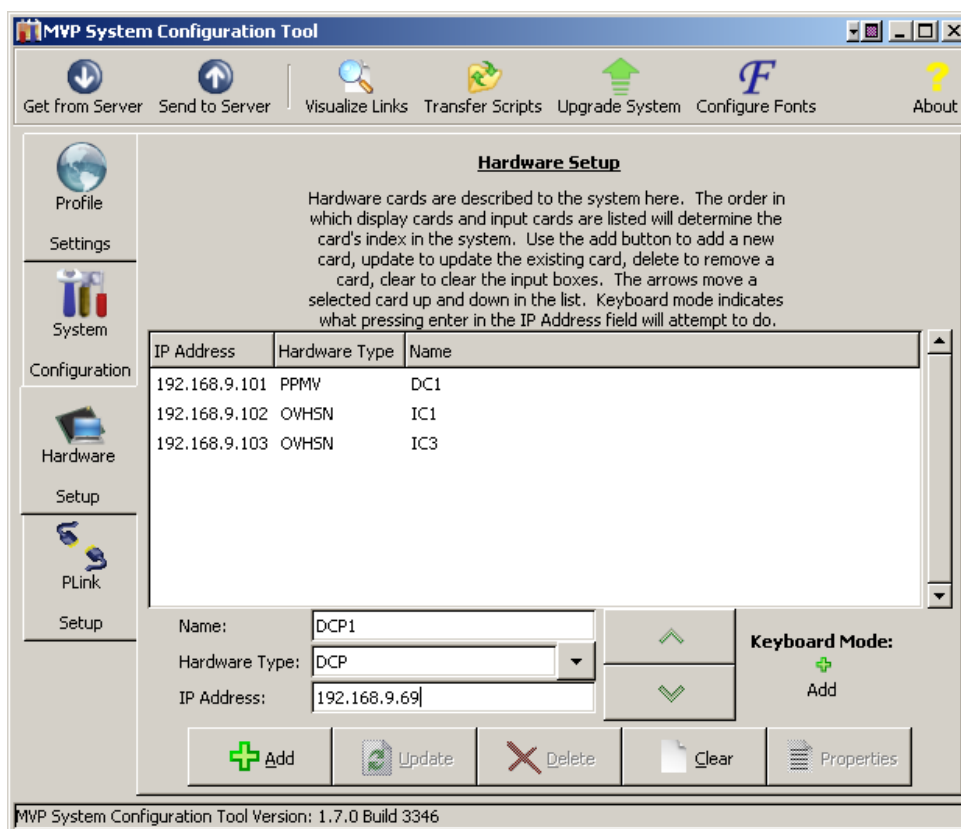

Figure 7-4: Adding the DCP to the Hardware List
3. Add a DCP to the Hardware list by filling out the name, type, and IP address fields. See Figure 7-4 below.